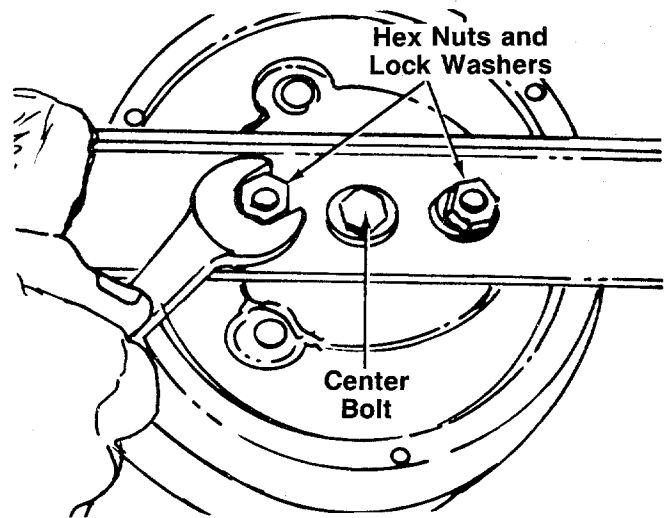

FIGURE 14.
To remove the cutting blade for sharpening or replacement, remove the two hex nuts and lock washers which hold the blade to the blade brake/clutch. Protect hands by using heavy gloves or a rag to grasp the cutting blade. See figure 14.
9. Tip the mower on its side. Remove the blade by removing two hex nuts and lock washers. Refer to figure 14.